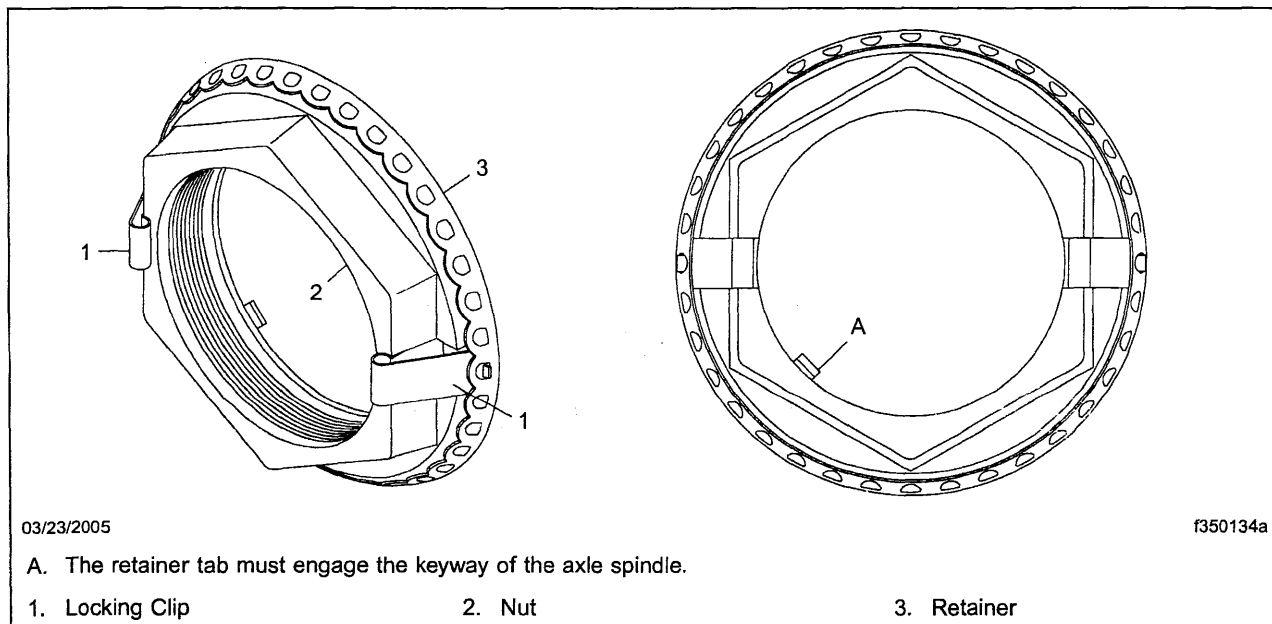

Fig. 1, Rear Axle Axilok Nut
11. If the vehicle is equipped with ConMet Preset® hubs, go to "Inspecting ConMet Preset Hubs." These hubs can be identified by the presence of an Axilok® bearing-retaining nut. See **Fig. 1**.